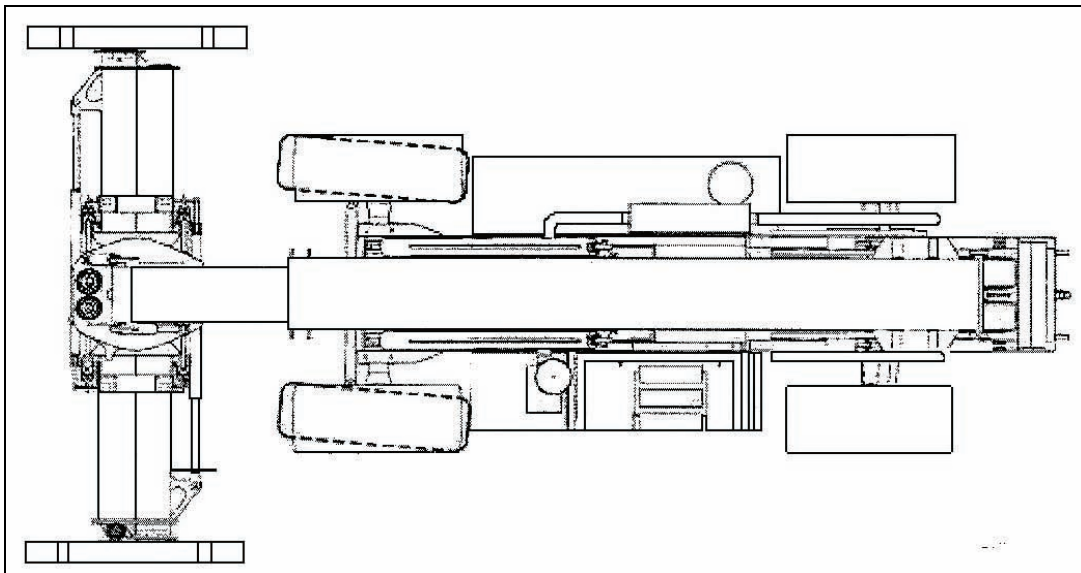
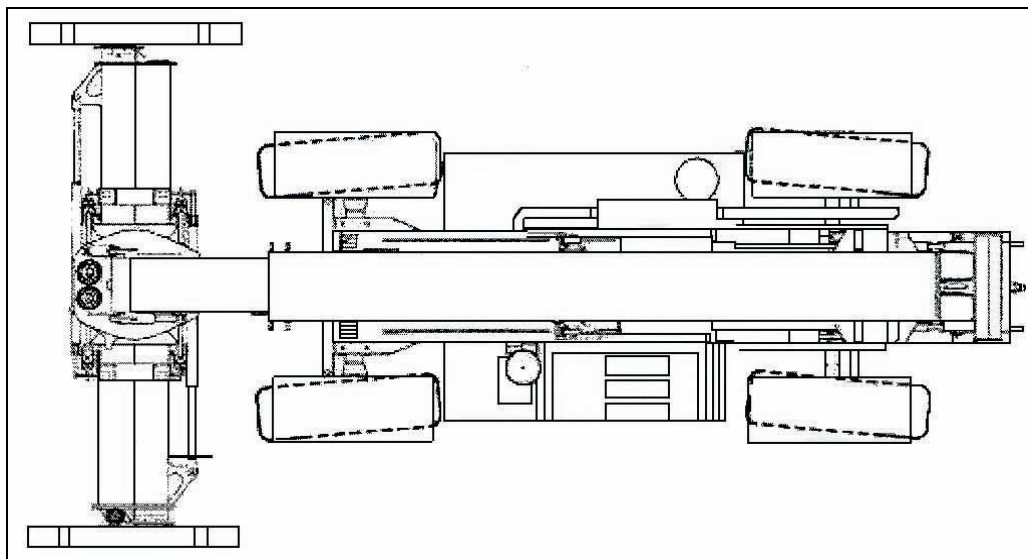
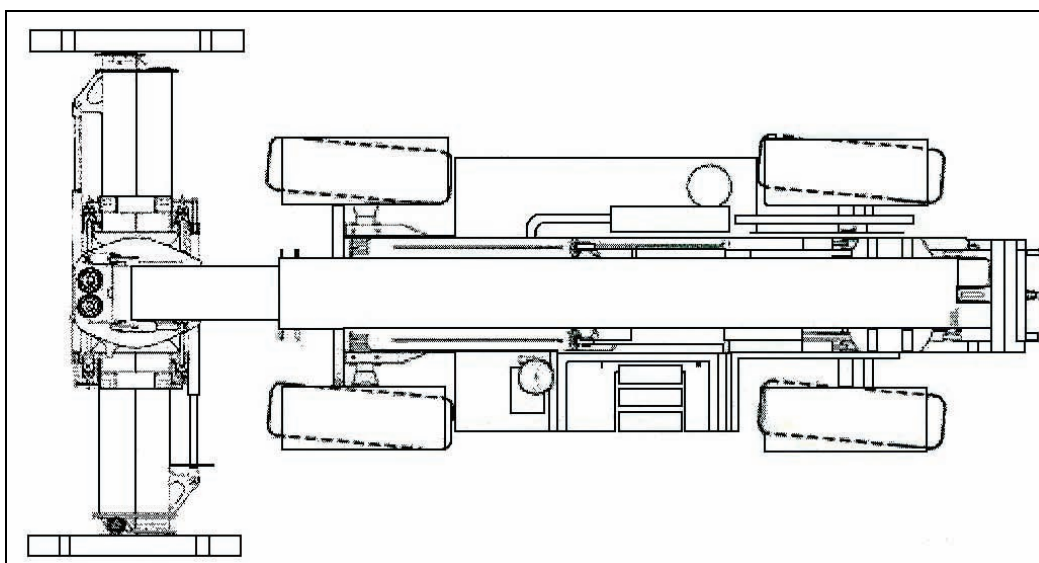

Figure 3-56. Two-Wheel Steering
Figure 3-57. Four-Wheel Steering
Figure 3-58. Crab Steering
- d. Select steering mode of operation by first straightening wheels, then pressing the desired steering selection switch (see Figure 3-56, Figure 3-57, and Figure 3-58).